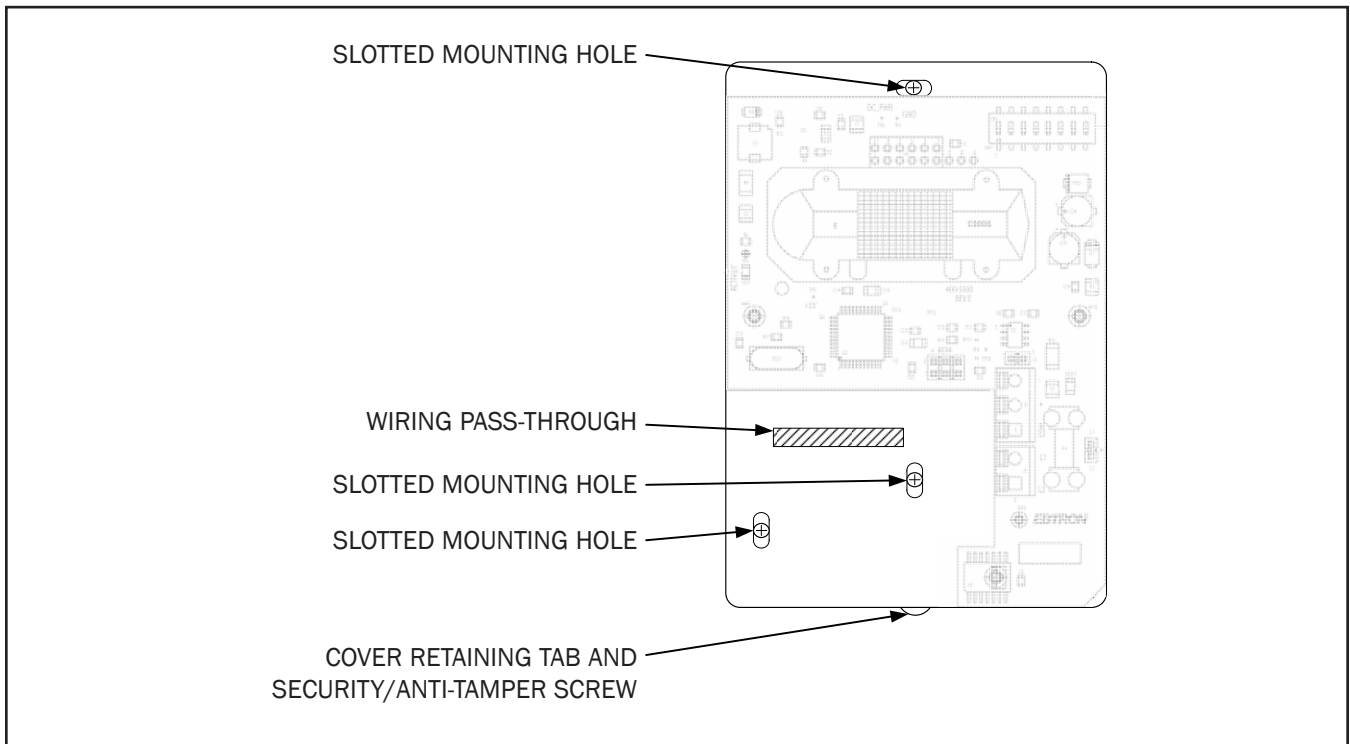

Figure 2. Tri-Stat Mounting Hardware Locations
5. Using the Tri-Stat base as a template, mark the location for the wiring pass-through slot and for the mounting screws as shown in Figure 2. For mounting directly to a single-gang electrical junction box, proceed to step 8.
4. Install Tri-Stat cover by engaging the small molded hinges at the top of the cover with the base, and gently swinging the cover downward into the closed position. The cover will latch via the tab located at the bottom of the enclosure. If required, install the Security/Tamper resist screw at the bottom of the Tri-Stat enclosure (as shown in Figure 2).